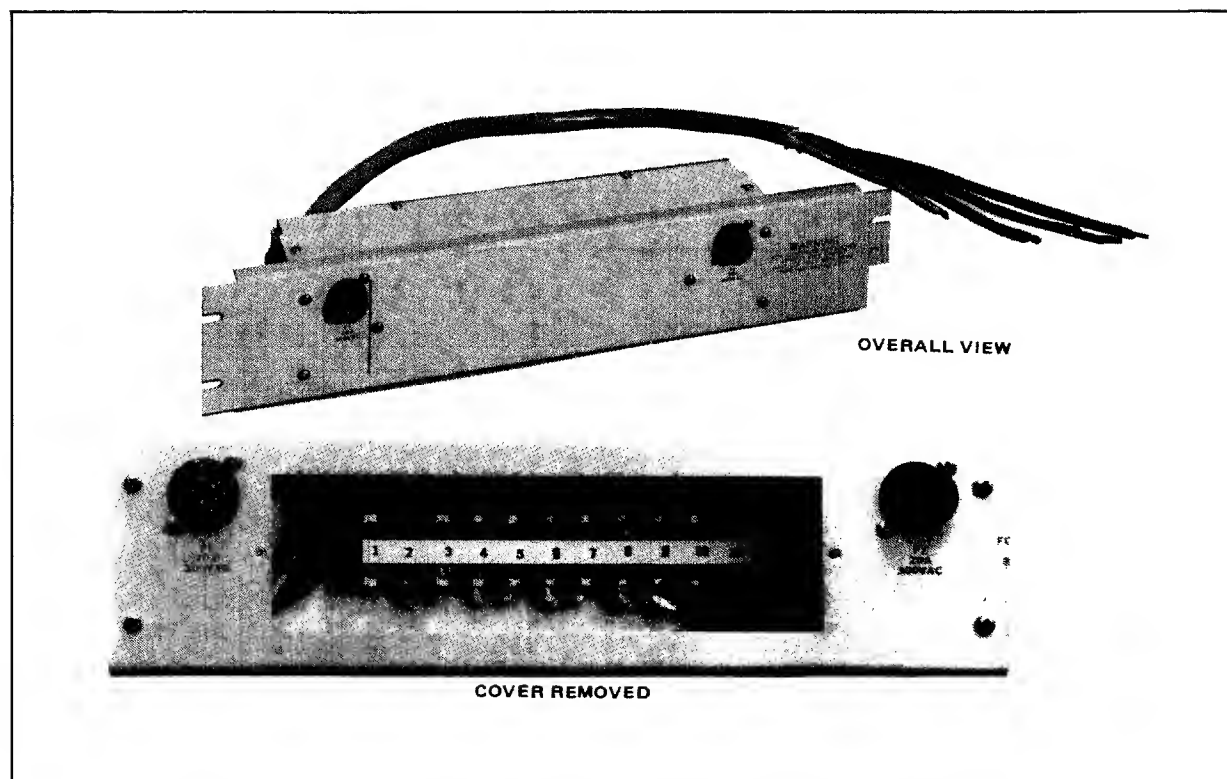

Figure 2-4. Power Distribution Unit, HP P/N 30330-60003
PDU = Power Distribution Unit, HP Part Number 30330-60003. See figure 2-4.
2. Remove the access plate from each PDU (see figure 2-4).